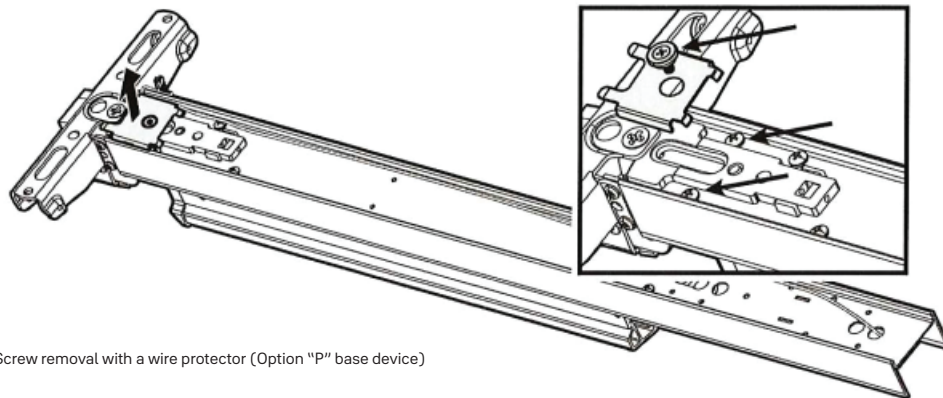

Figure 3 Screw removal with a wire protector (Option "P" base device)
- Remove the screws holding the trim slide, wire protector, and latch assembly in place. See Figure 3
- Remove the screws holding the trim slide, wire protector, latch assembly, and connecting slide in place. See Figure 3.